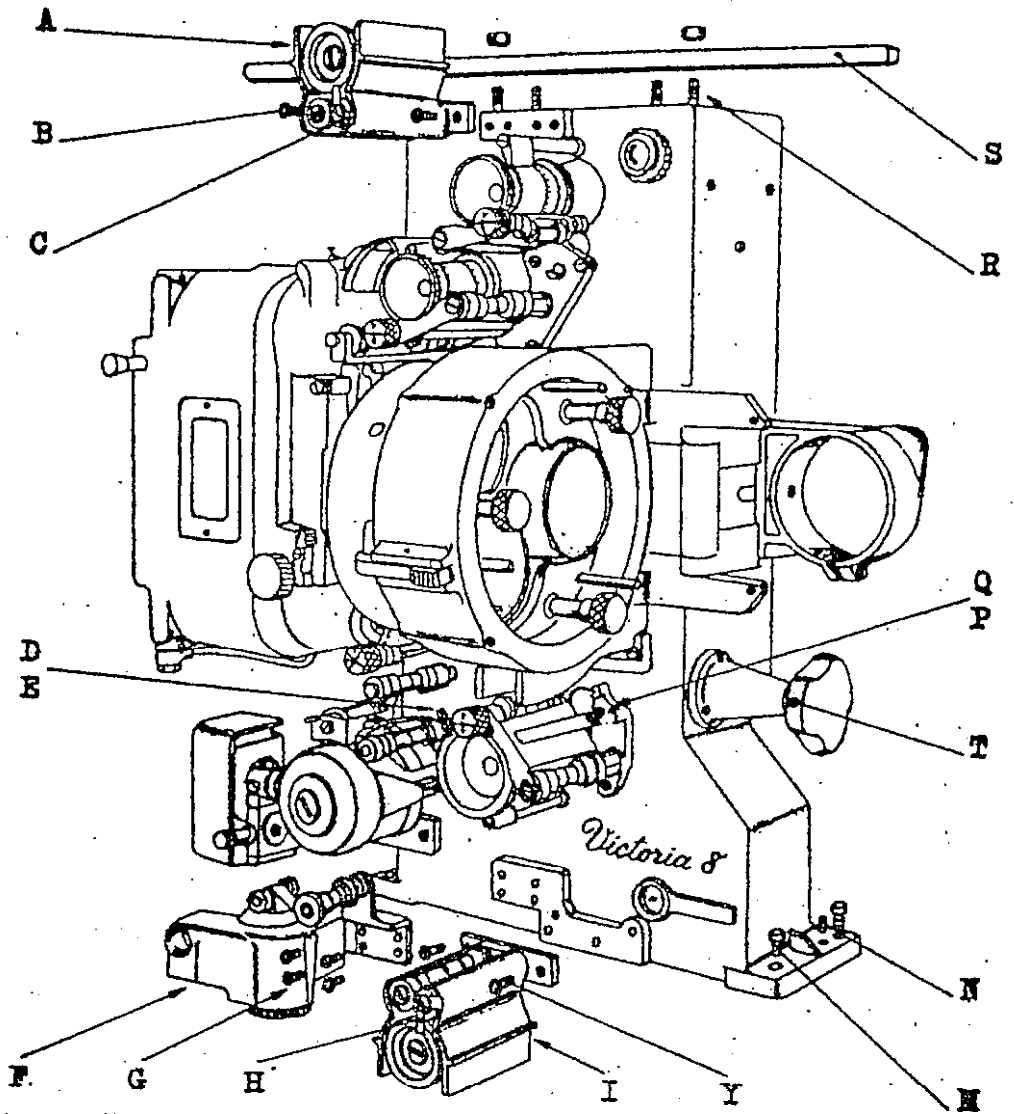

FIG. 7
- FIG. 7 5" SINGLE LENS HOLDER